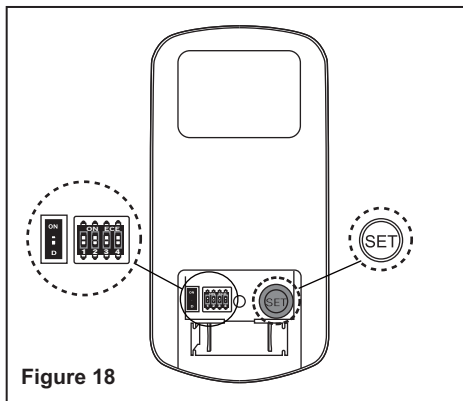

Figure 18
☀ button: Controls light. Switch the “D” and “ON” dip switch on the back of transmitter to decide the light in “ON/OFF” or “Dimmable” condition. (Fig. 18)
a) Select desired frequency from the transmitter. The dip switches can be set to 16 different combinations. (Fig. 18)
b) From the back of the transmitter, with the fan’s power off, restore power to the fan. Press and hold “SET” button for about 5 seconds and release. If optional light kit is installed, the light kit will flash twice and the signal light on the hand held transmitter will come on when the button is pressed. The fan has completed the pairing process with the remote control and is ready for use. (Fig. 18)